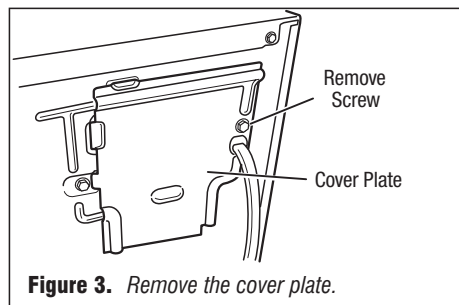

Figure 3. Remove the cover plate.
2. Remove the cover plate from the top right corner of the back of the dryer. See figure 3.